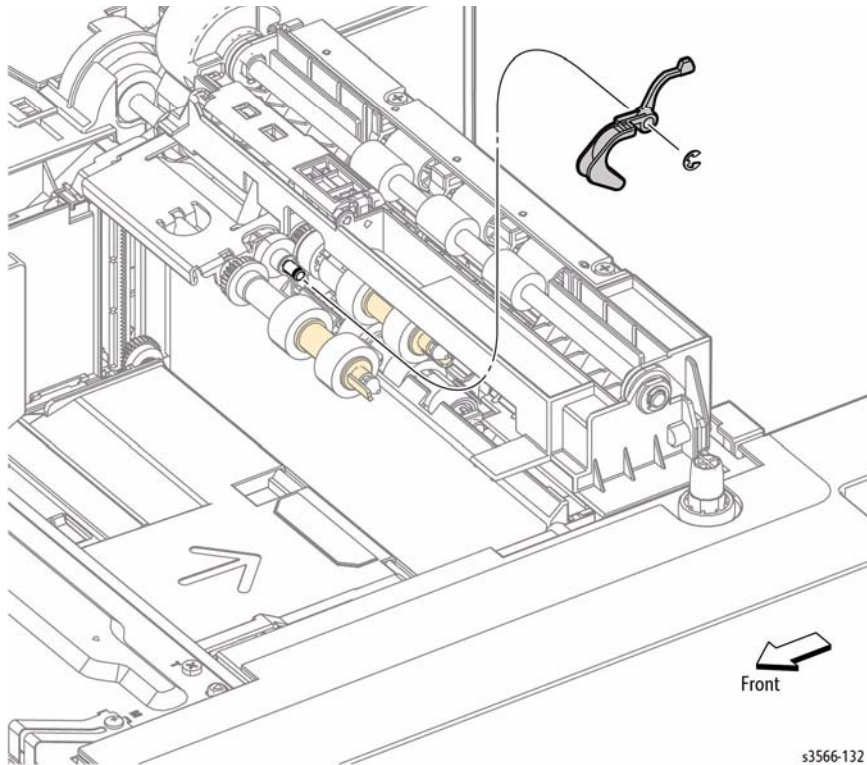

Figure 1 Remove the No Paper Sensor Actuator
3. Refer to Figure 1 to locate and remove the E-clip that secures the actuator to the Feed Assembly.